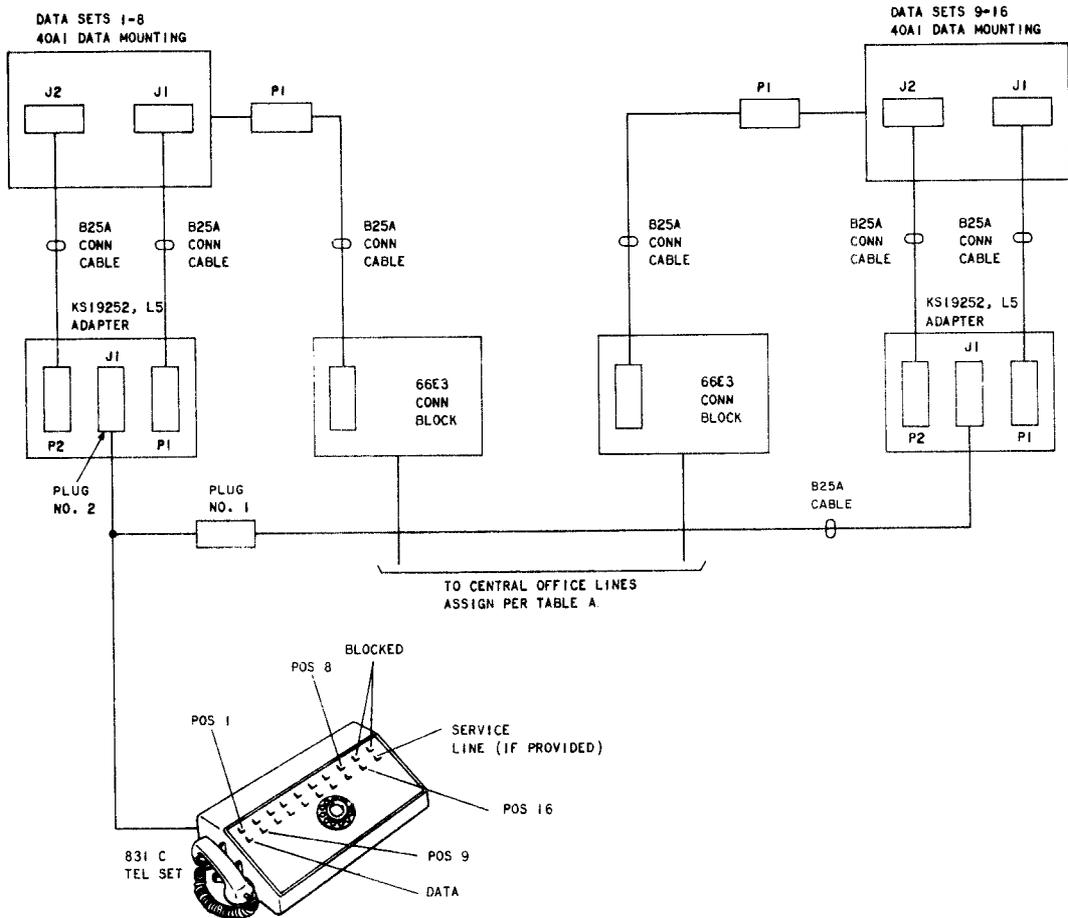

Fig. 8—2025 Data Station Arrangement for 9 to 16 Data Sets With 831C Tel Set
3.14 **831C or 2831C Telephone Set:** If an 831C or 2831C tel set is used, plug it into J1 of the KS-19252-L5 adapter. Plug P1 and P2 of each KS-19252-L5 adapter into J1 and J2 of the 40A1 data mountings (Fig. 8 and 9). Positions 9 and 10 on the tel set must be blocked.